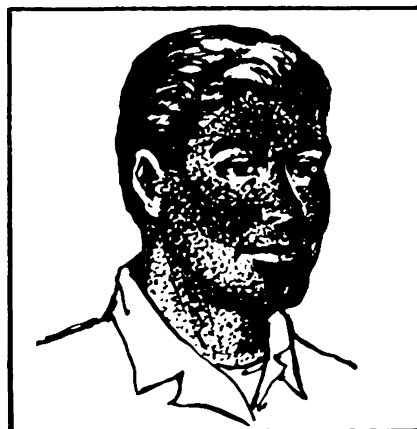

Figure 1.
1. To camouflage exposed skin (fig. 1):